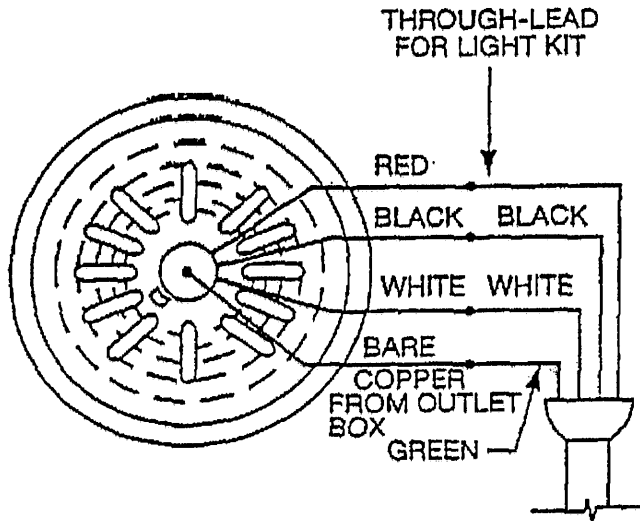

FIGURE 4
1. Mount the fan to the fan hanger. Connect the white wire from the control to the fan white wire and the black wire to the black. Connect the bare copper wire to the green ground wire from the through-lead for light kit. See Figure 4.